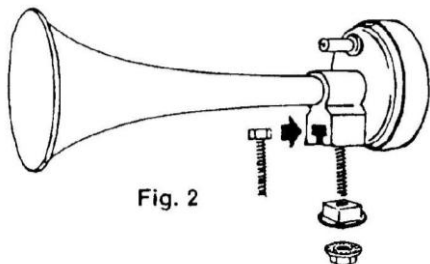

Fig. 2
5. Drill a 1/4" hole for each trumpet. Mount trumpets as shown in figure 2 with the hex bolt, plastic spacer and nut supplied.